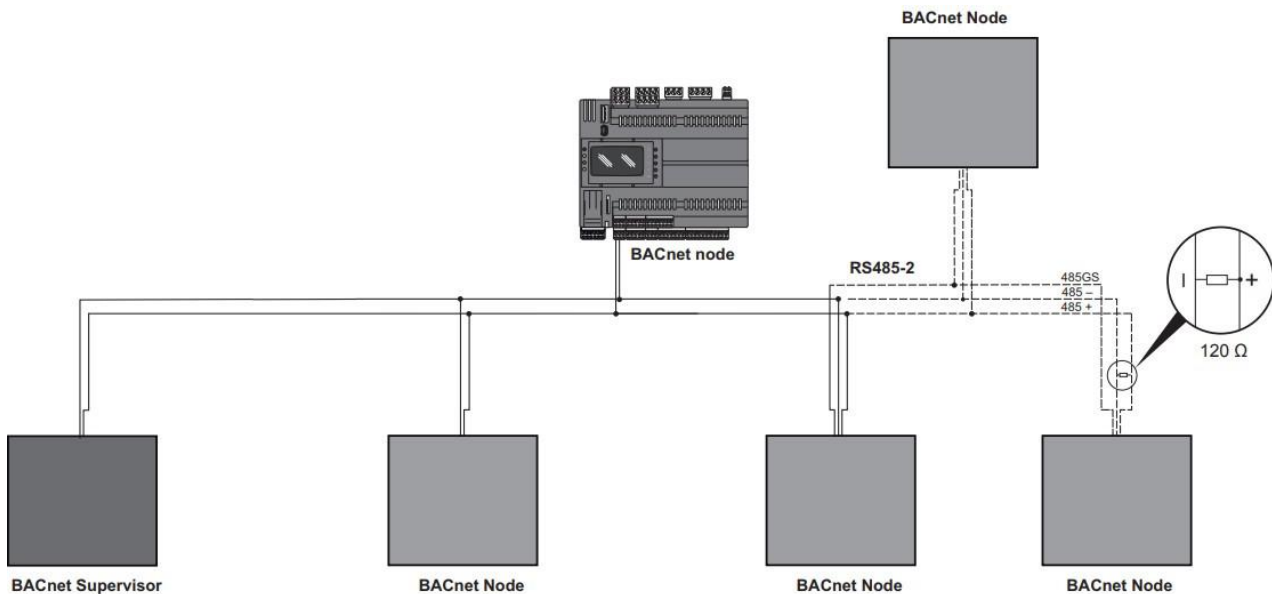

Figure 9.3: BACnet MS/TP network example
- To keep the RS485 line balanced, a 120Ω terminating resistor must be added at each end device as shown in Figure 9.3.